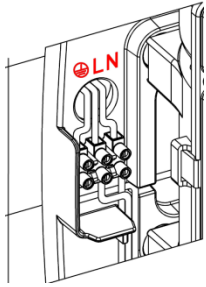

Figure 7.
- Connect the electrical cables to the hand dryer's terminal strip. Connect the cables corresponding to the two phases (N and L) and to earth in the corresponding sockets of the terminal strip, as indicated by the engraved letters (Figure 7).